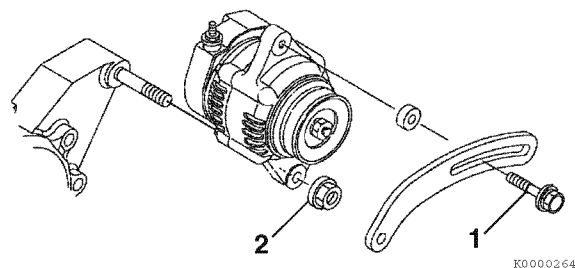

Figure 12-4
3. Remove the V-belt adjuster from the alternator bolt (1, Figure 12-4).
4. Remove the nut (2, Figure 12-4) from the gear case stud. Remove the alternator.